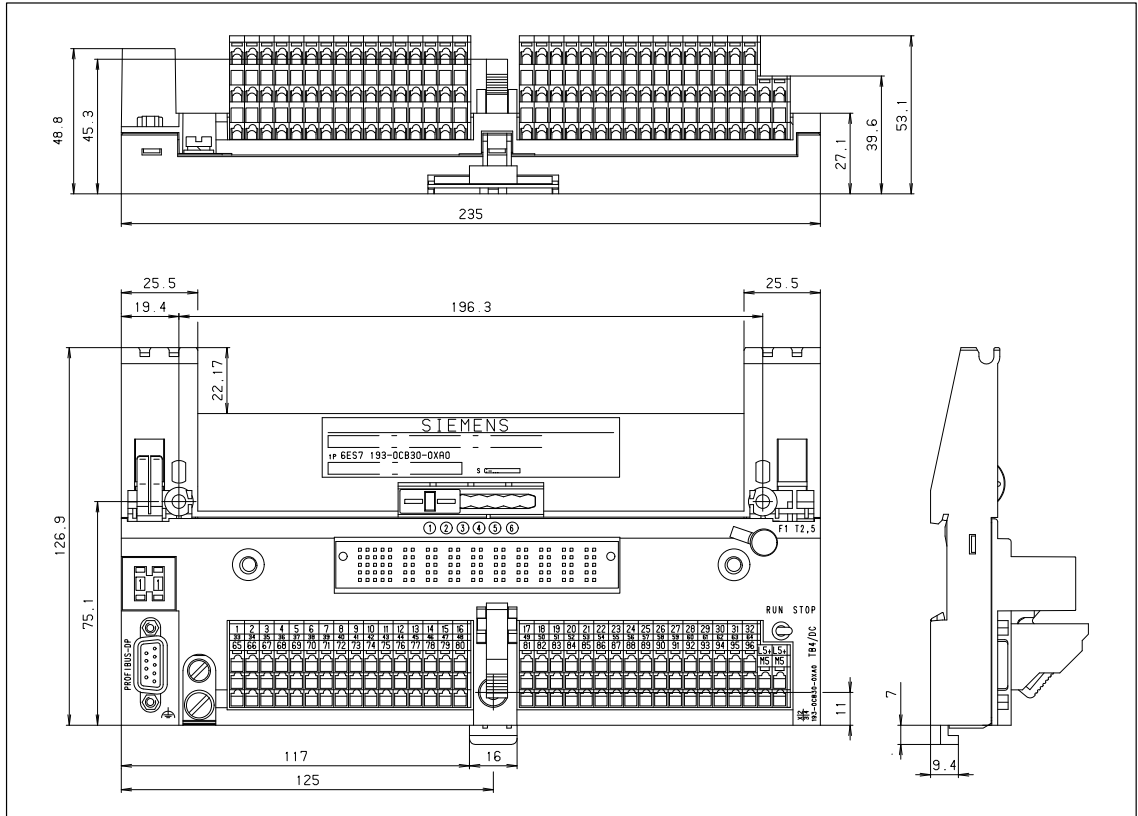

Figure 7-11 Dimensional Drawing: Terminal Block TB4/DC (Spring-Latch Terminal)
**Dimensional Drawing** Figure 7-11 is a dimensional drawing of the TB4/DC (spring-latch terminal).